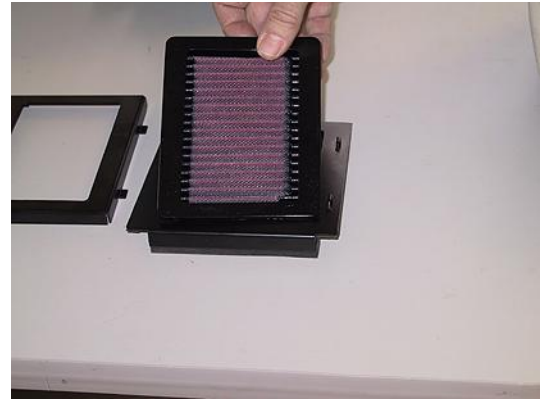

Figure B-6
- 5) Remove the filter element as illustrated in Figures B-6 and B-7.